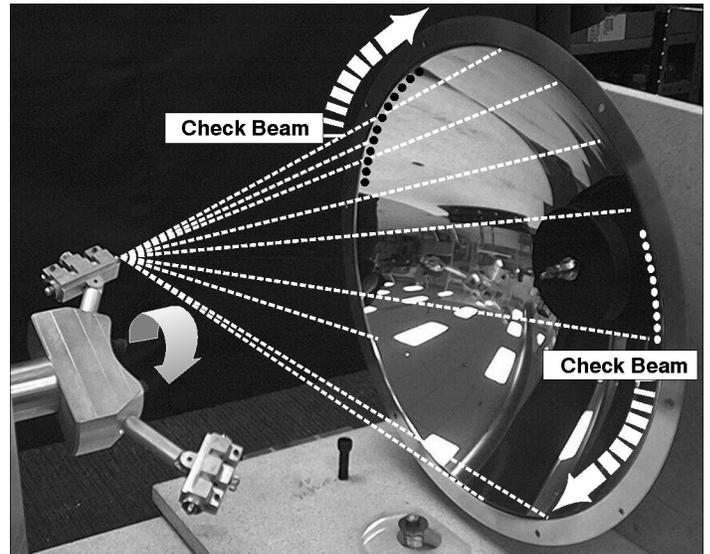

Figure 2.17. Check for x,y centering of the reflector (SIMULATION)
6. Turn on one laser. Direct it very near the corner of the lip in one spot, then rotate the jig fully— if the beam remains the same distance from the corner of the lip as it travels along the complete circumference of the reflector, the reflector is well-centered on the “x” (horizontal) and “y” (vertical) axes, relative to the center of the head opening. See Figure 2.17.